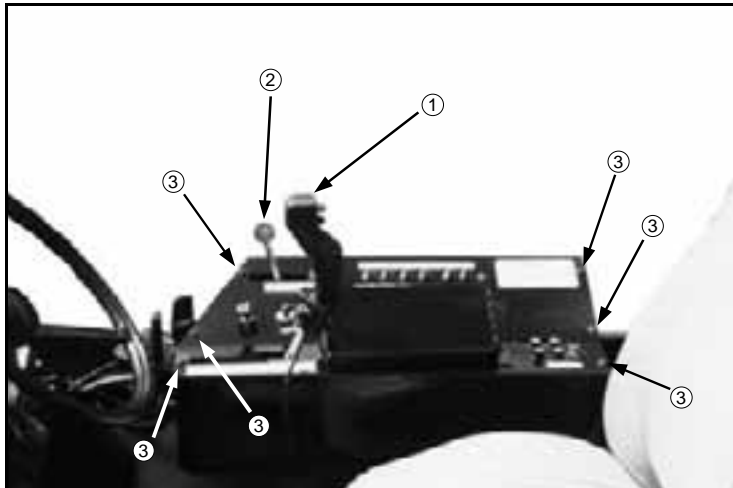

FIG 7.38
hydrostatic handle (fig 7.38, item 1), VFC lever knobs (fig. 7.38, item 2), and panel screws (fig. 7.38, item 3). The circuit breakers are located toward the rear of the console.